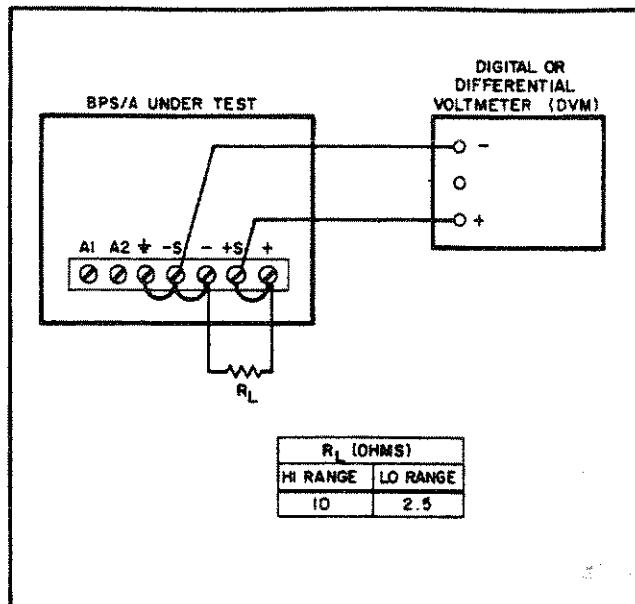

Figure 5-1. Power Supply Mode Test Setup
- Connect high range load resistor ( $R_L$ ) across output terminals (see Figure 5-1).
i. Turn off BPS/A. Change load resistor  $R_L$  to low range value (see Figure 5-1) and set RANGE switch to X1.
- Connect the test setup shown in Figure 5-1. Use high range (X4) load resistor value.
- Connect the test setup shown in Figure 5-1. Use the high range (X4) load resistance value.